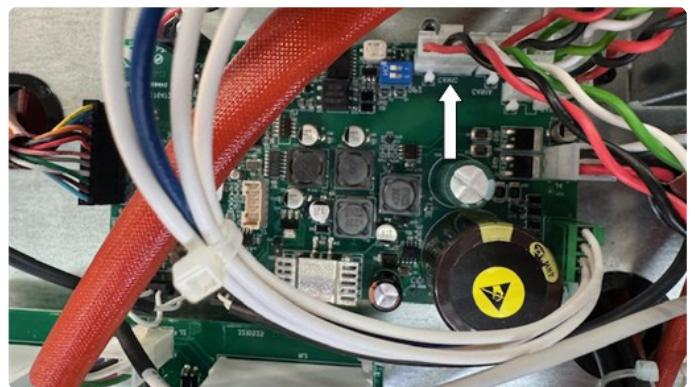

Fig. 6
- ◆ Connect the 4-pole connector at the opposite end of the 5587505 (pos.3) connection to the CAN1C connector of the 5602685 control circuit positioned above the tunnel as shown in fig.6;